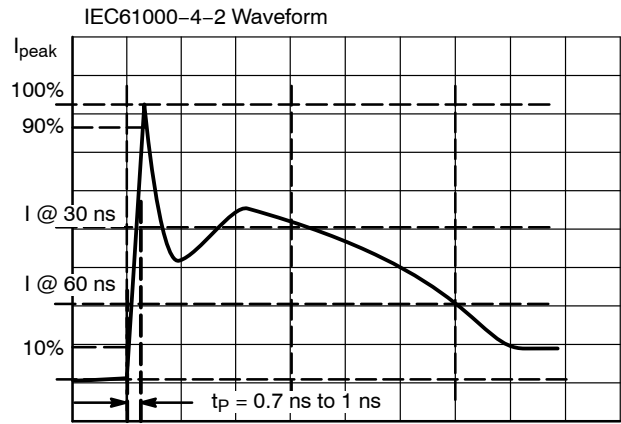

Figure 5. IEC61000-4-2 Spec
- For test procedure see Figures 5 and 6 and Application Note AND8307/D.